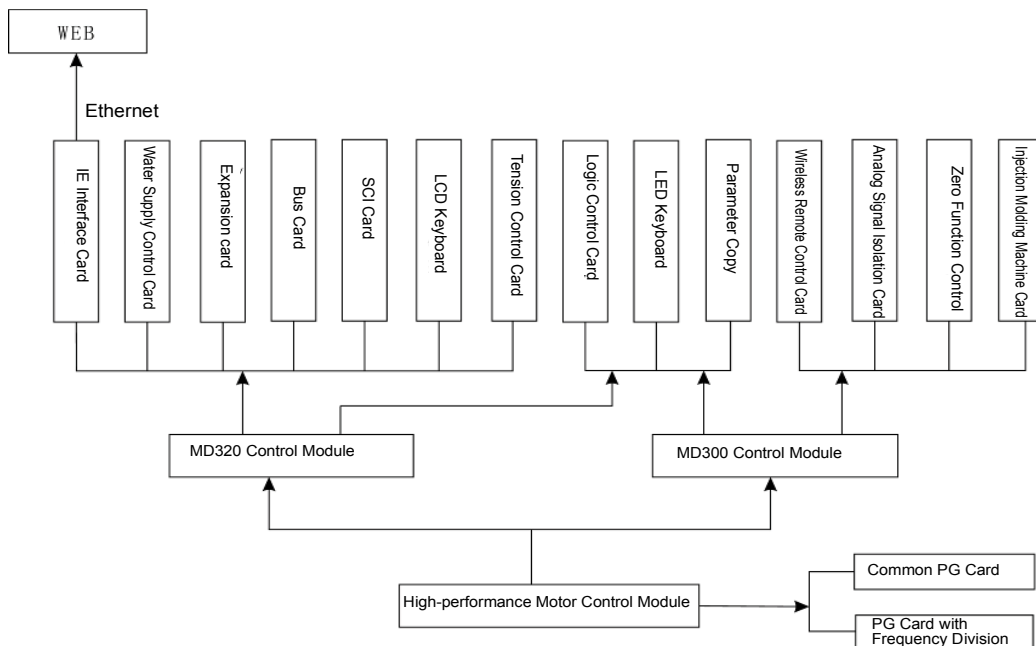

Fig.2 MD Series Inverter Modular Structure Diagram
2. It firstly makes the physical standard for distinguishing the main modules, such as motor drive, general function and special function, from the sub-modules as shown in Fig.2.
3) The top-layer module of MD series inverter is used special for the industry, which offers solution platform according to the industrial demand. Customers can use the existing solution or perform second development according to their own needs. Refer to Fig.2 for the top sub-module